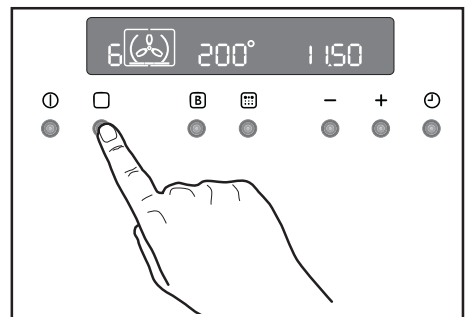

Fig. 5
2) Press button **□** to select the required oven function. Each time button **□** is pressed, a cooking symbol will appear in the display and the corresponding cooking function number will appear to the left of the currently selected cooking function symbol (Fig. 5).